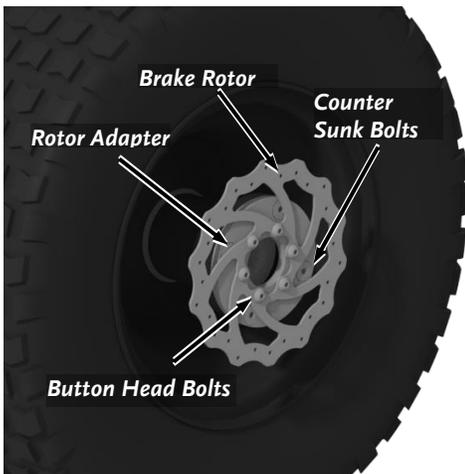

Figure 22
8. Remove the Brake Rotor from the Rotor Adapter by removing the five Button Head Bolts using a 5/32" Allen Key (**Figure 22**).